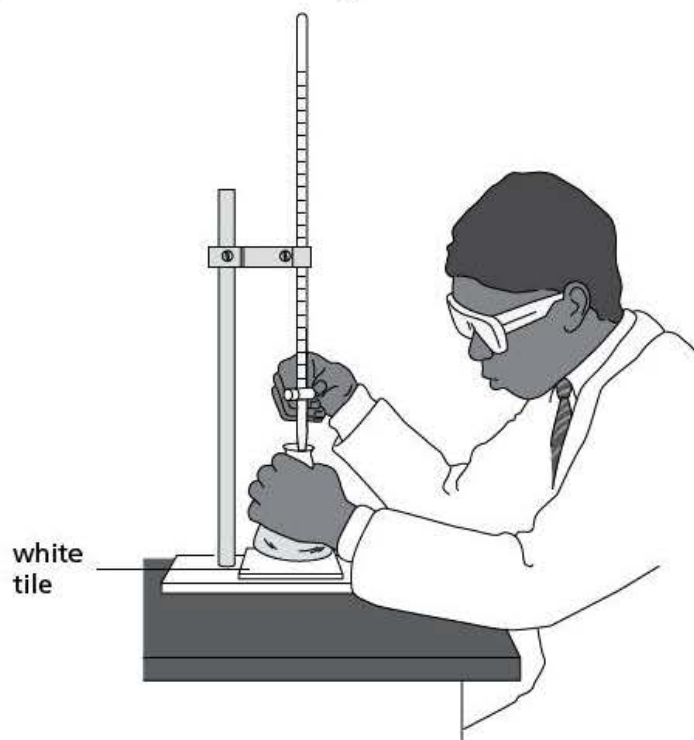

Figure 2
- 5 The sulfuric acid is added to the aqueous ammonia solution in small quantities – usually no more than 0.5 cm³ at a time (Figure 2). The contents of the flask must be swirled after each addition of acid for thorough mixing.